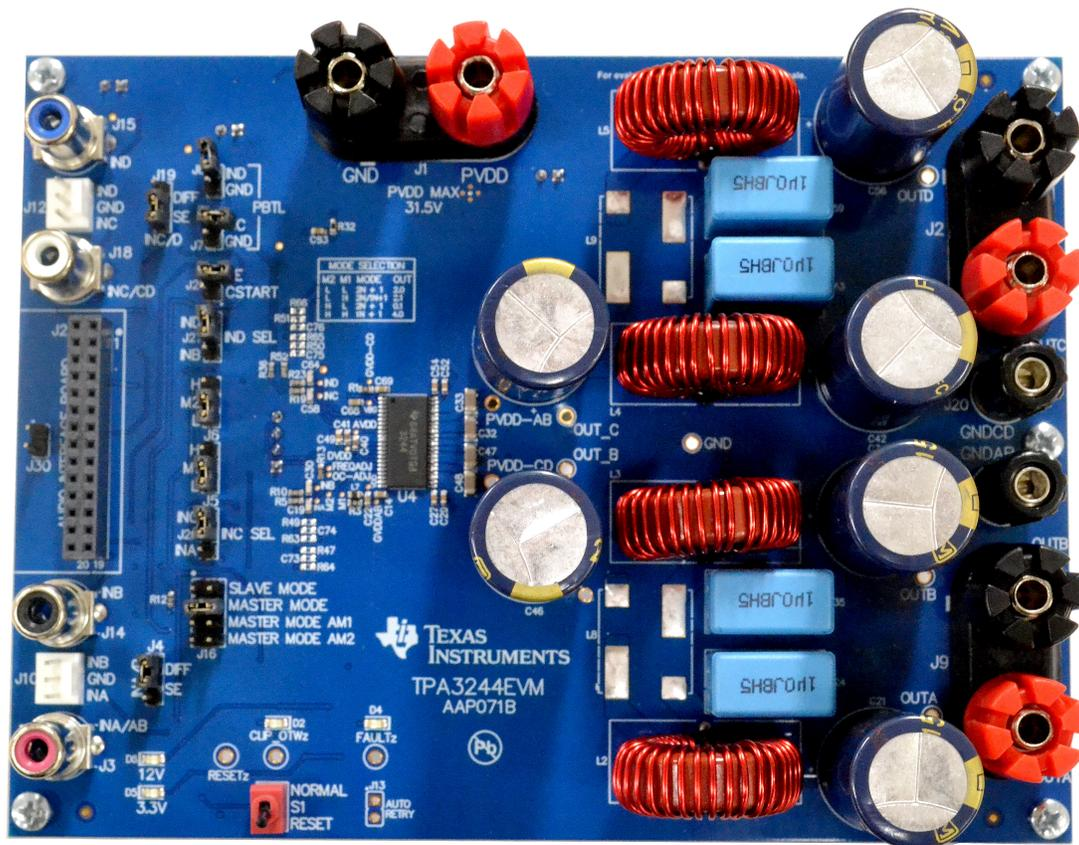

Figure 1. TPA3244EVM
- Check that jumpers are in their default state as shown in Figure 1 and Table 3 for stereo BTL operation: